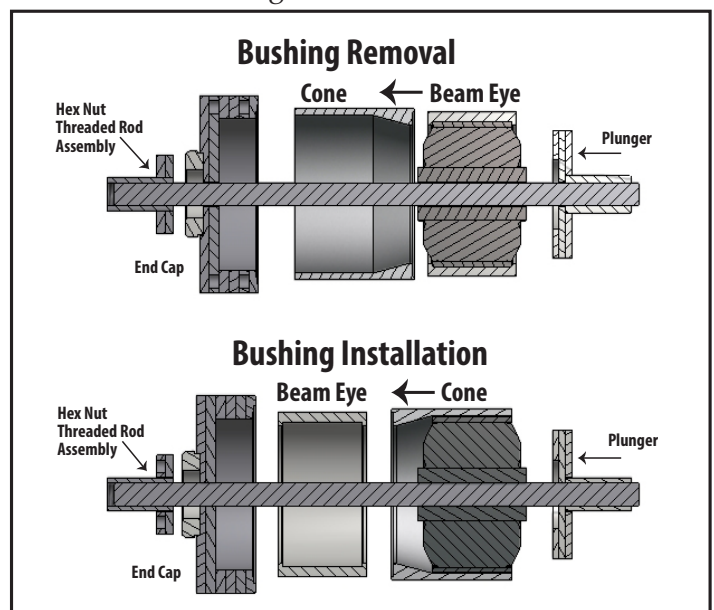

Figure 8.
- Assemble the bushing replacement tool and place on the eye of the beam (Figure 8).